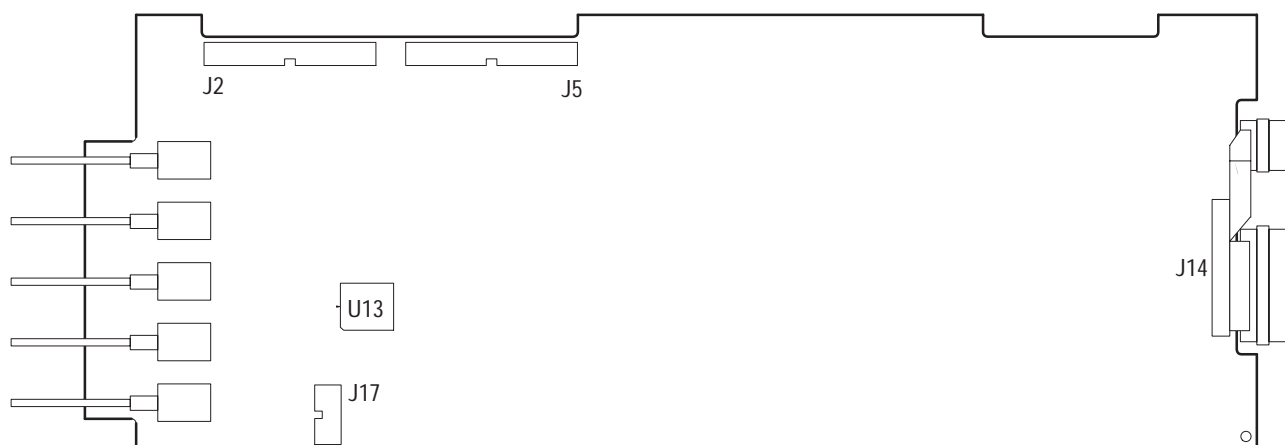

Figure 3: Main board showing location of U13
NOTE. Check the version of the waveform monitor boot ROM before installing new software. The boot ROM is the socketed IC U13 on the Main board (A3). See Figure 3. The A3 Main board is the large board on the bottom of the waveform monitor. Read the last two digits from the part number label on the boot ROM to determine the version. If the boot ROM version is 00 or 01, you need to replace it with the 02 boot ROM before loading new software. Contact your Tektronix Service Representative for more information.
NOTE. *Check the version of the waveform monitor boot ROM before installing new software. The boot ROM is the socketed IC U13 on the Main board (A3). See Figure 3. The A3 Main board is the large board on the bottom of the waveform monitor. Read the last two digits from the part number label on the boot ROM to determine the version. If the boot ROM version is 00 or 01, you need to replace it with the 02 boot ROM before loading new software. Contact your Tektronix Service Representative for more information.*
To access the boot ROM, you need to remove the cover and turn the instrument over. The A3 Main board is the large board on the bottom. See Figure 3.
5. Replace socketed U13 with the IC Tektronix part number 163-0653-XX provided in the kit. Refer to Figure 3 for the component location.